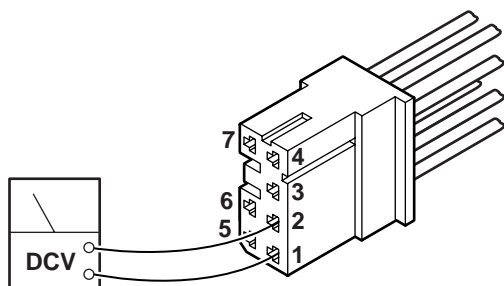

Figure 7-18. Relay Box Input
2. Using a DC voltmeter, test input power for both the BATTERY and AC120V operating modes. See figure 7-18. Meter should read approximately 24 -28 volts.
2. Test CN12 at pin 1(+) and pin 2(-) with a DC voltmeter. Meter should read approximately 24-28 volts when any function button is activated. If no voltage is present, use an ohmmeter to test the continuity from CN12 to CN4 (yellow and blue wires). Refer to figure 7-18 for pin locations.